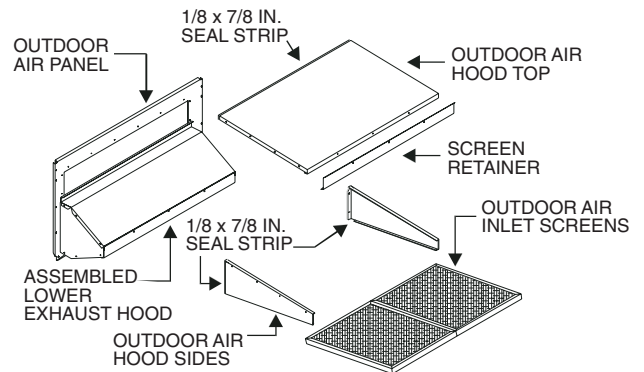

Fig. 21 — Outdoor Air Hood Assembly (Horizontal EconoMi\$er)
3. Install the ⅛ x ⅞ in. (horizontal) or ⅛ x ¾ in. (vertical) seal strip on the OA hood top and side panels. Assemble the OA hood to the OA panel as shown in Fig. 21, using the screws provided. Do not attach hood assembly to the unit at this time.